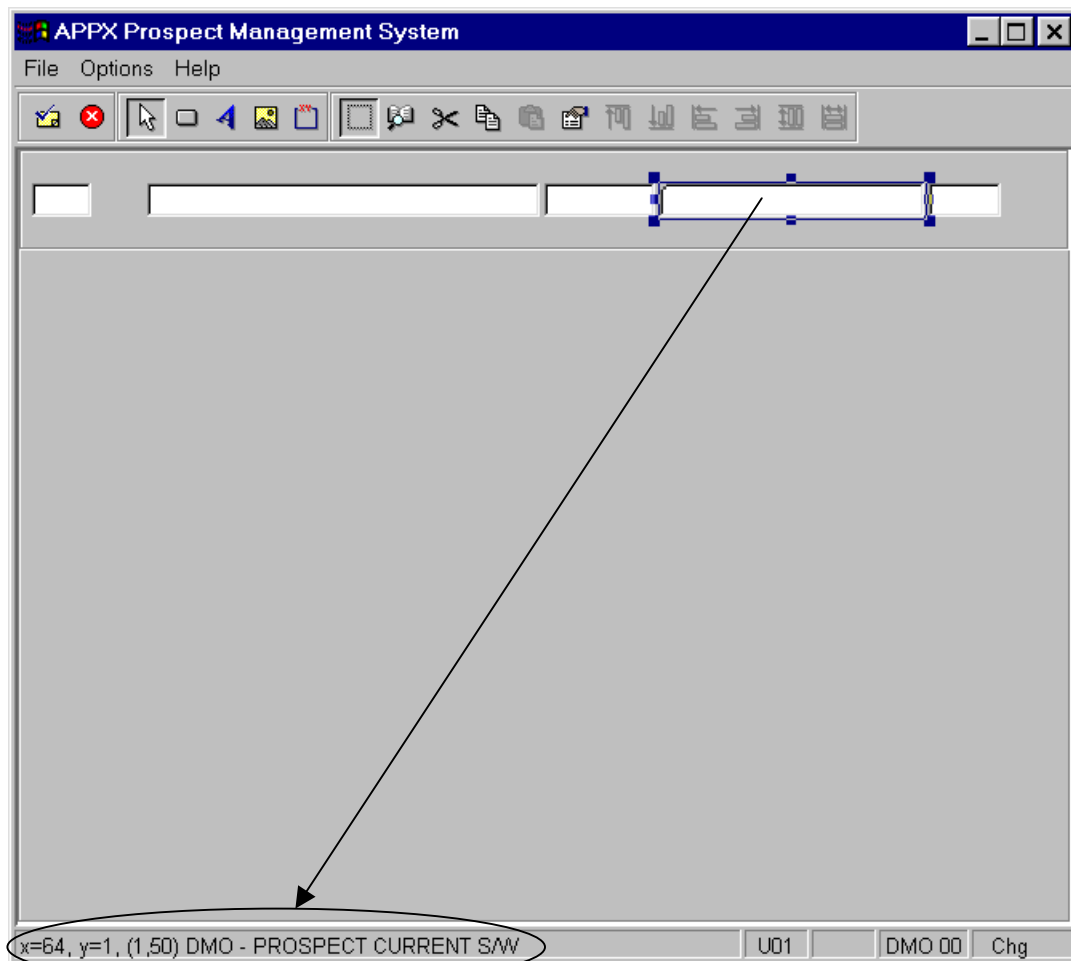

Figure E4.12 – Record Image display
- The boxes that are painted across the image (*Figure E4.12*) represent the fields that have been defined on the image. As you position your cursor over each field the field name is displayed in the bottom left corner of the screen.